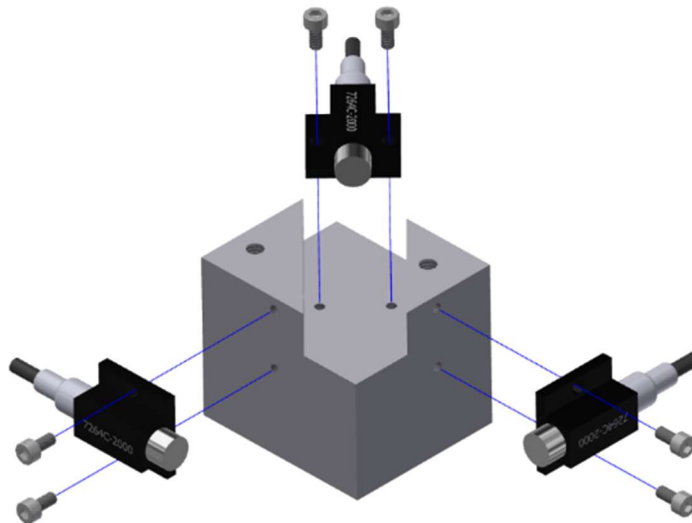

Figure 3-14. Exploded head accel mount
- 3.2.13 Remove three uniaxial accelerometers (SA572-S4) from the accel mount (SA572-S167) by removing two M1.4 X 0.3 X 3 LG. SHCS per accelerometer (Figure 3-14).